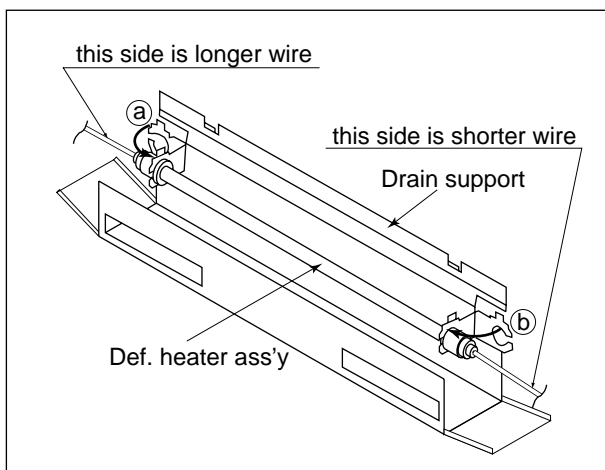

Fig. A-30
6. Band (a) and (b) of Drain support to right angle (90°) set Def. heater ass'y. (Fig. A-30)